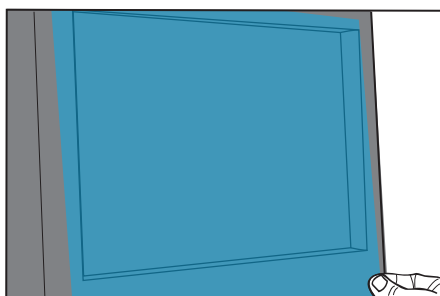

Figure 12
- › Completely remove the liner and position the film on the screen. (FIG. 12)